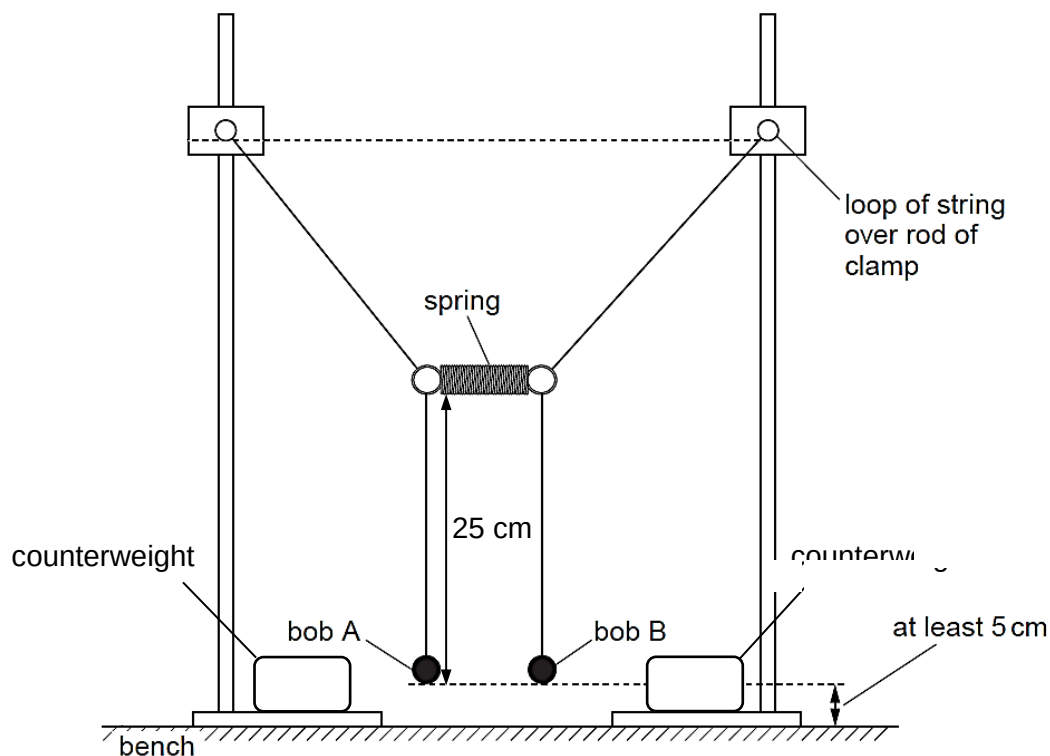

Fig. 3.2
- (b) Set up the apparatus as shown in Fig. 3.2 by tying the two pendulum bobs to the ends of the horizontal spring with each pendulum having a length of approximately 25 cm.
[M][1] Setup as shown in Figs 3.2 and 3.3 (or by drawing) and carry out the experiment as mentioned in b)(iii). Only change is to replace bobs with slotted masses.